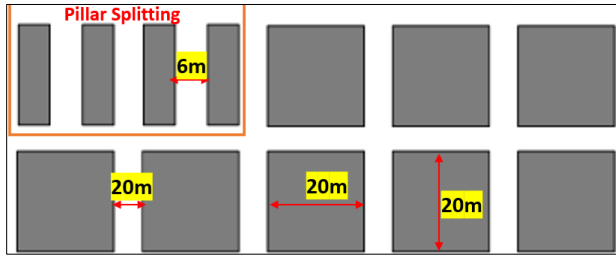

Figure 2-1: Insitu Short Encapsulation Pull Test Load-deformation curve.
2.1. An insitu Short Encapsulation Pull Test was conducted in an underground coal section. Some of the information used for the test is contained in **Table 2-1**. The resulting load-deformation curve is presented in **Figure 2-1**. Answer the questions that follow.